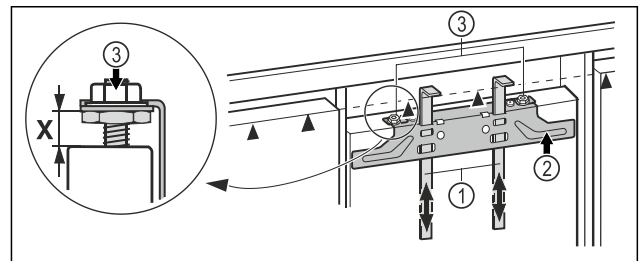

Fig. 42
- Push the assembly aids Fig. 42 (1) up to the height of the unit door. Lower stop edge ▲ of the assembly aid = upper edge of the unit door to be assembled.
- Unscrew the fastening crossbeam Fig. 42 (2) using the lock nuts Fig. 42 (3).